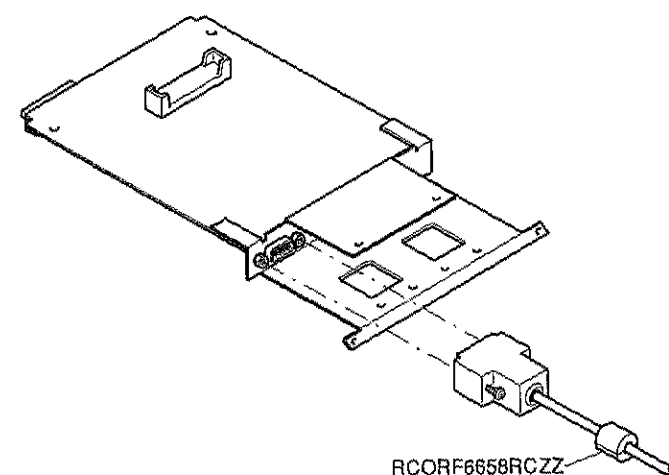

Fig. 2
- Be sure to install the core (RCORF6658RCZZ) on RS-232C cable. (Fig. 2)